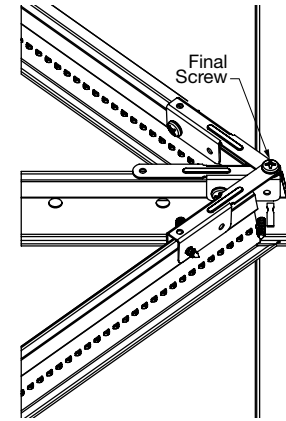

Fig 37
- After all PACs have been screw-attached to the XM Cross Tees, connect them to the first installed PAC by inserting a screw through the aligning holes on the top (**Fig 37**).